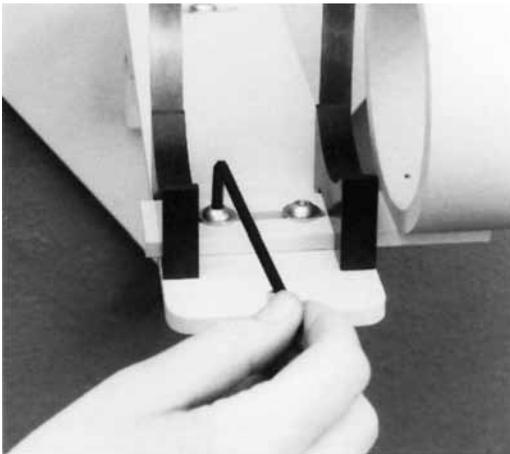

Figure 25
**2. To Confirm Image Size.** With the tube-head/cone placed in the fixator/collimator as described above, the image should be within  $\frac{1}{2}$ " of the cassette borders. (The total image field must not exceed 9.2" x 11.2".) If adjustments need to be made, you may (a) relocate the cone in the cradle (being certain the front end of the cone is at least 1 inch inside the cradled cone housing) or (b) loosen the two screws on the housing platform (Figure 25) to allow the platform to slide along the fixator base. Sliding the cone or housing platform in the direction of the cephalostat reduces the image size. Sliding the cone or housing platform away from the cephalostat increases the image size.